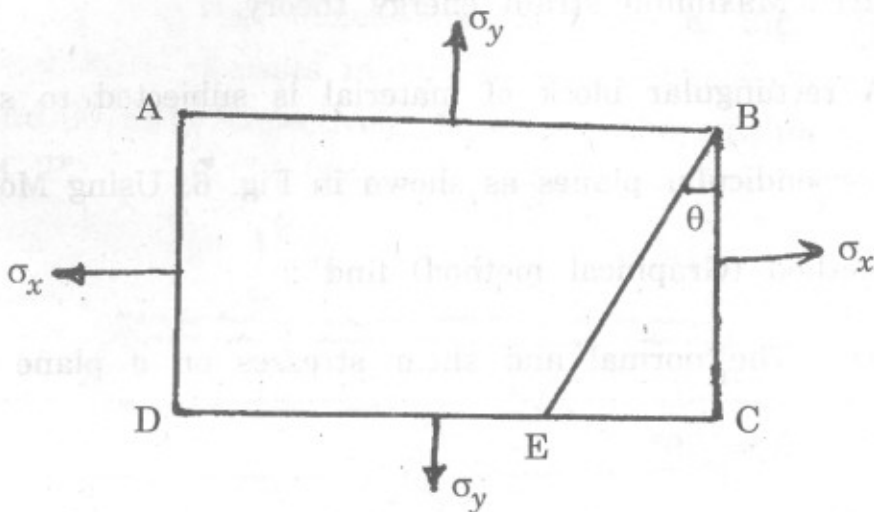

Fig. 5
5. (a) Derive the equations for normal and shear (tangential) stresses on an inclined plane BE when it is subjected to two mutually perpendicular tensile stresses σ_x and σ_y as shown in Fig. 5. [8]